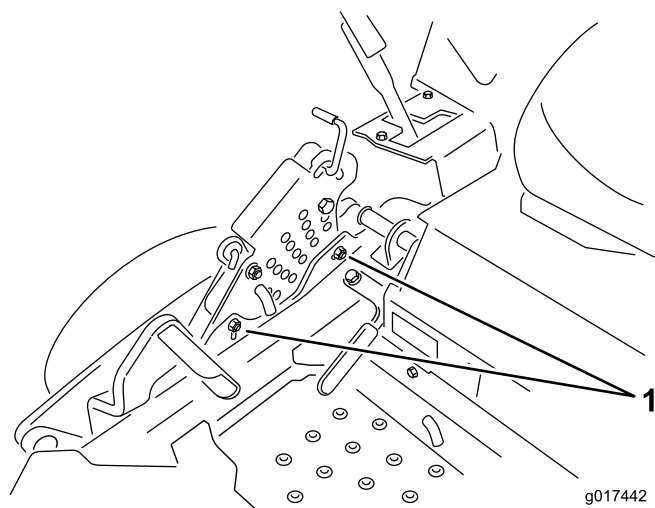

Figure 74
- To adjust the single point system, loosen the two bolts at the bottom of the height of cut plate. Refer to Figure 74.
- Tighten the two bolts at the bottom of the height of cut plate (Figure 74). Torque to 27-33 ft-lb (37-45 N-m).